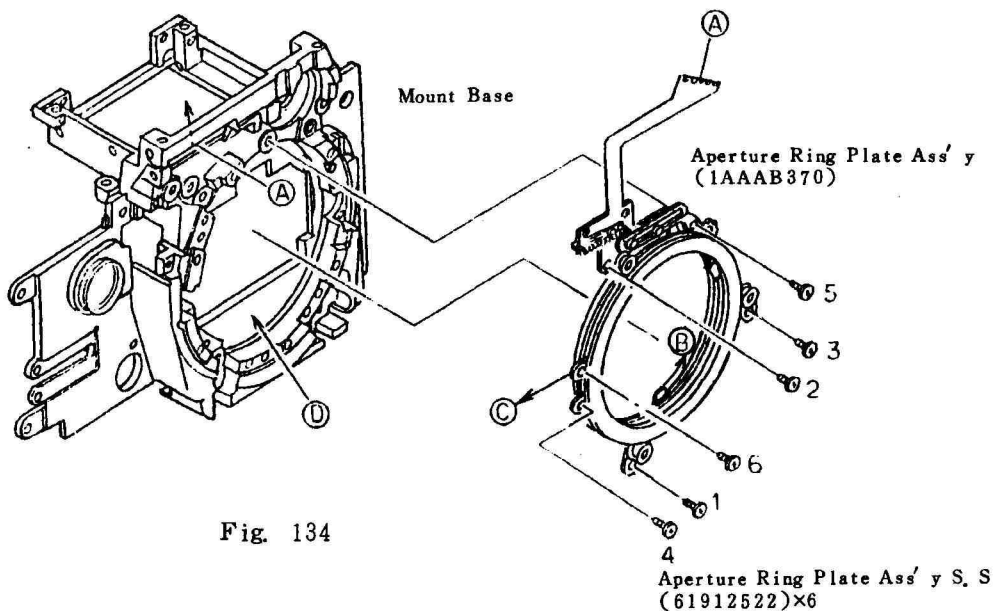

Fig. 134
(See Fig. 134)
Notes : a) Move to the left (in the direction of the arrow ③) and install the Aperture Ring Plate Ass'y, and tighten the Aperture Ring Plate Ass'y Setscrews in the order of ① through ⑥. (See Fig. 134)
c) Take care not to scratch the ④ part of the Mount Base.